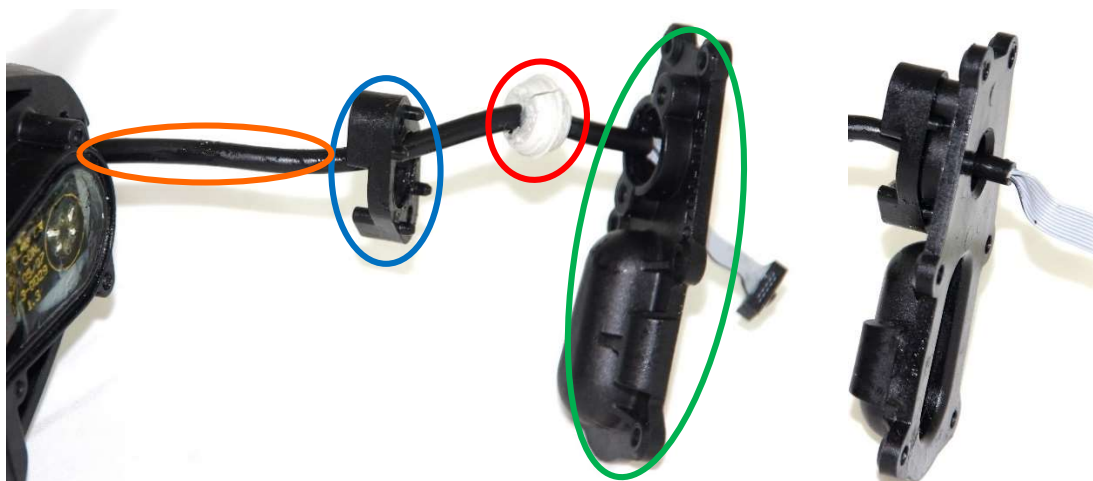

Figure 53: Correct Placement of Wiring Loom (Orange), Cover Ribbon Cable (Blue), Grommet (Red) and Cover Bulkhead (Green).
- The grommet is attached to the wiring loom by prising open the split in the grommet with finger nails to get on to the wiring loom. Shown in Figure 53.